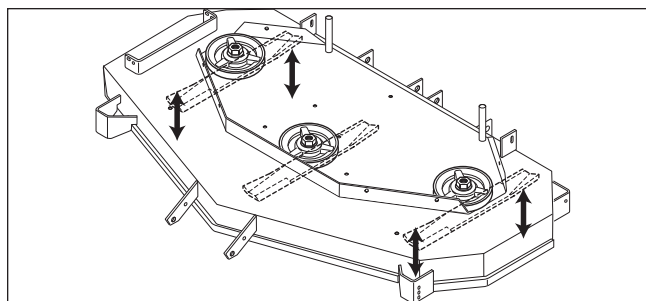

Figure 55. Checking the Blade Height Adjustment
7. See Figure 55. Position the outside mower blades so they face front-to-back.